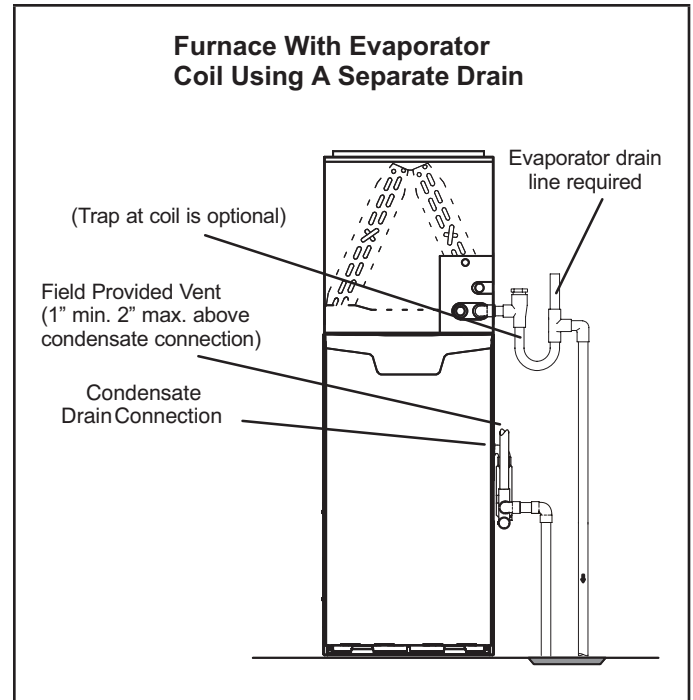
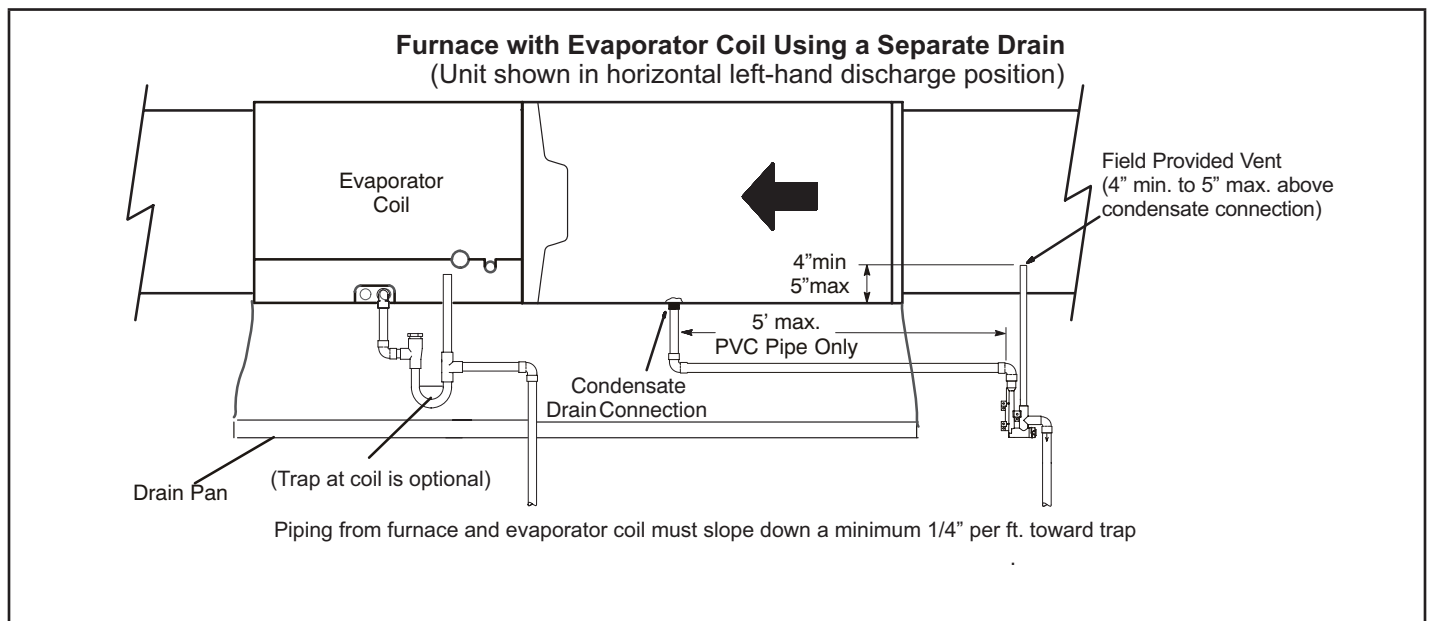
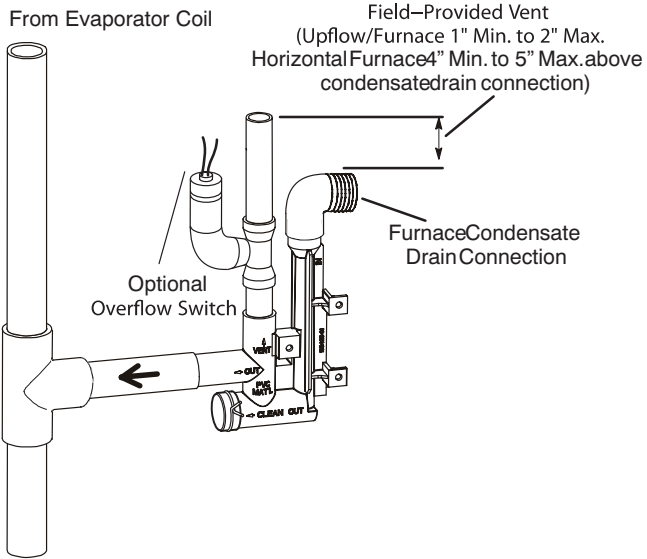
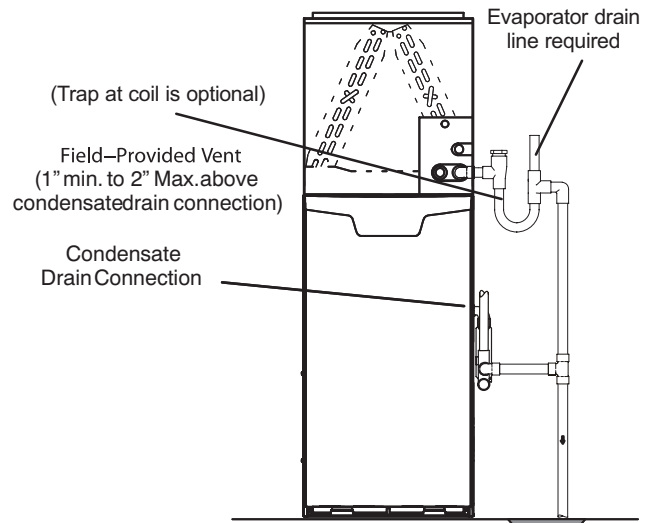

Figure 48
Figure 49
Figure 50
Figure 51
- 5 - Figure 48 and Figure 49 show the furnace and evaporator coil using a separate drain. If necessary the condensate line from the furnace and evaporator coil can drain together. See Figure 50, Figure 51 and Figure 52. **Upflow furnace** (Figure 51) - In upflow furnace applications the field provided vent must be a minimum 1" to a maximum 2" length above the condensate drain outlet connection. Any length above 2" may result in a flooded heat exchanger if the combined primary drain line were to become restricted. **Horizontal furnace** (Figure 52) - In horizontal furnace applications the field provided vent must be a minimum 4" to a maximum 5" length above the condensate drain outlet connection. Any length above 5" may result in a flooded heat exchanger if the combined primary drain line were to become restricted.